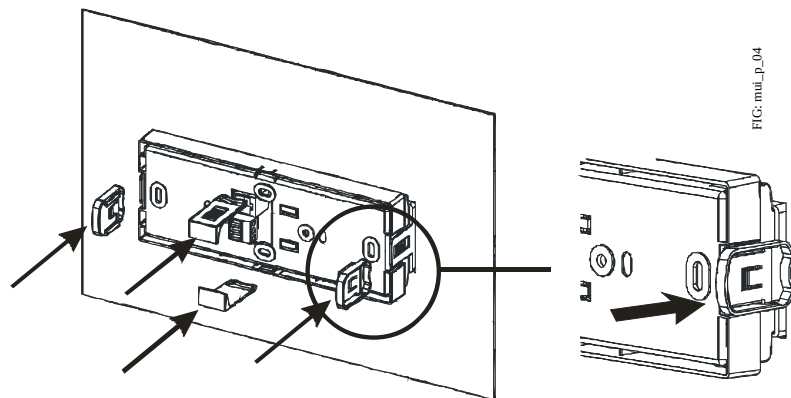

Figure 9: Securing the MUI in a Panel
4. Hold the panel mount bezel of the MUI firmly against the front of the panel and insert the four locking clips as indicated in Figure 9. Ensure that the side clips are pressed firmly against the panel.